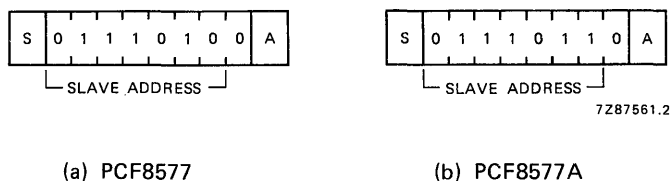
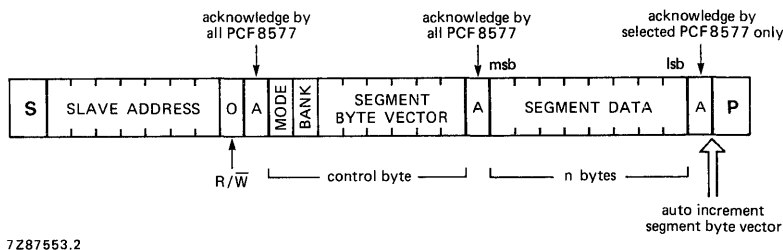

Fig.6 PCF8577 and PCF8577A slave addresses.
Fig.7 I2C-bus protocol.
There are two slave addresses, one for PCF8577, and one for PCF8577A (see Fig.6). All addressed devices load the second byte into the control register and each device maintains an identical copy of the control byte in the control register at all times (see I2C-bus protocol Fig.7), i.e. all addressed devices respond to control commands sent on the bus.
The slave address for PCF8577 and PCF8577A are shown in Fig.6.
The PCF8577 I2C-bus protocol is shown in Fig.7.
The PCF8577 is a slave receiver and has a fixed slave address (Fig.6). All PCF8577s with the same slave address acknowledge the slave address in parallel. The second byte is always the control byte and is loaded into the control register of each PCF8577 on the bus. All addressed devices acknowledge the control byte. Subsequent data bytes are loaded into the segment registers of the selected device. Any number of data bytes may be loaded in one transfer and in an expanded system rollover of the SBV from 111 111 to 000 000 is allowed. If a stop (P) condition is given after the control byte acknowledge the segment data remains unchanged. This allows the BANK bit to be toggled without changing the segment register contents. During loading of segment data only the selected PCF8577 gives an acknowledge. Loading is terminated by generating a stop (P) condition.